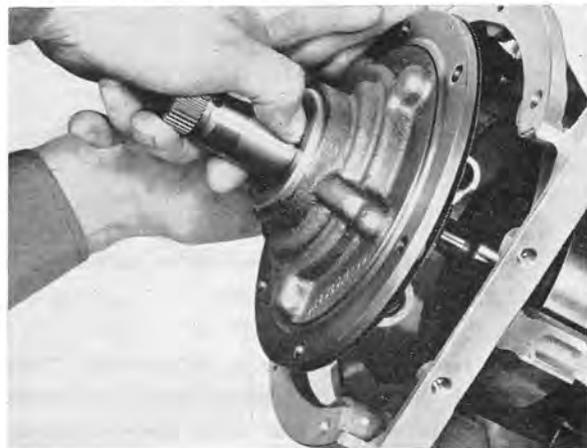

Fig. 4-88. Removing pump
22. Unscrew the six bolts which retain the pump to the body. Withdraw the pump and remove the gasket. Push the shaft inwards when withdrawing the pump, see Fig. 4-88.